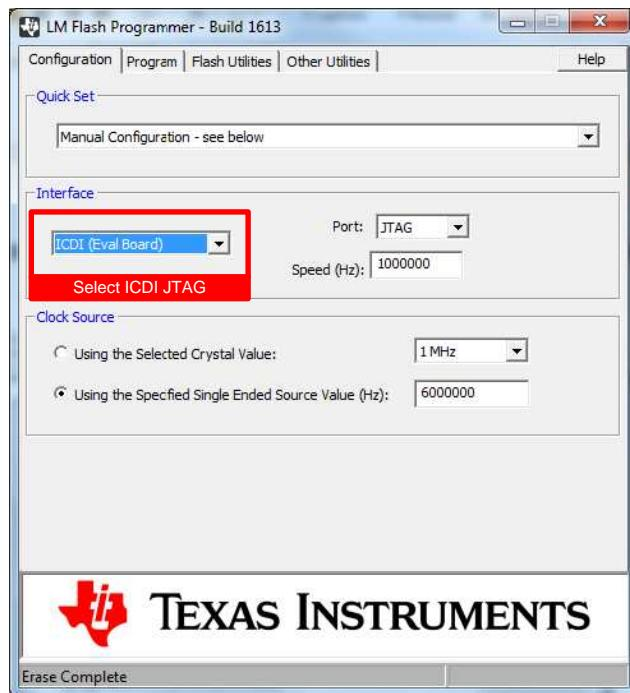

图 12. LM Flash Programmer Main Bootloader Programming - Interface Setting (JTAG)
4. Place jumper J1 on the FLASHCS side. Use the LM Flash programmer to download ektm4c129\_qssi\_bootloader to an TM4C1294NCPDT Connected LaunchPad kit that has been erased. After performing checks for QSSI and SDRAM memory, the bootloader activates UART0 to download an image to the external QSSI flash. For the setting of the LM flash programmer, see 图 12 and 图 13.)